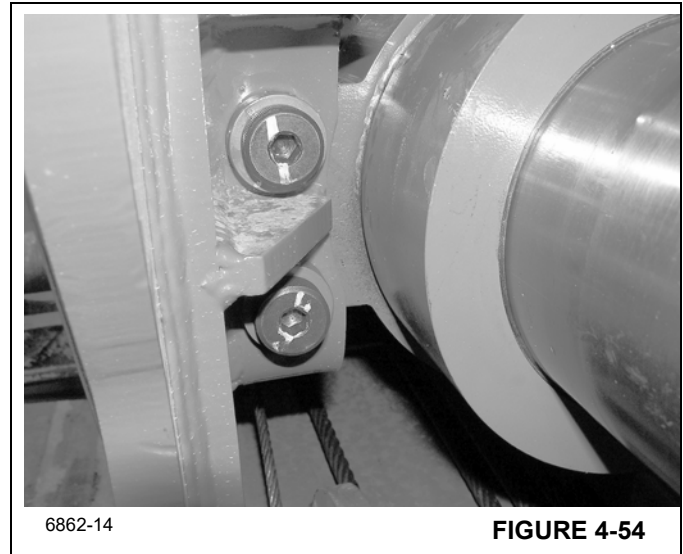

FIGURE 4-54
13. Align the cylinder mounting holes with the mounting bracket holes in the rear of outer mid section and secure with two bolts and bushings on each side. See (Figure 4-54).